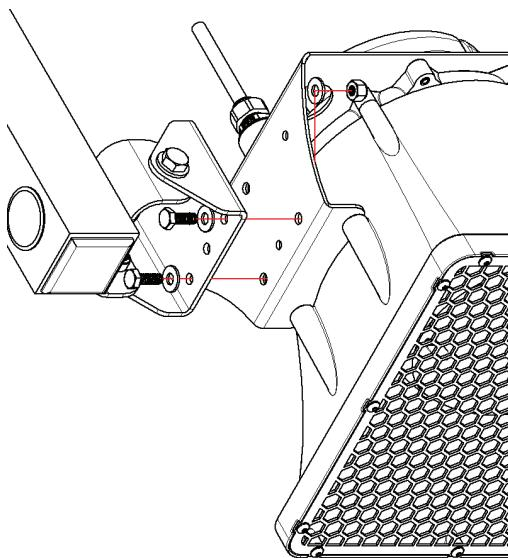

Figure 4: Attaching Wall Mounting Bracket
- 1) To mount a single TCPA-10, attach the mounting bracket to the wall bracket (optional accessory or customer supplied) with three $\frac{1}{4}$ -20 bolts (Figure 4).